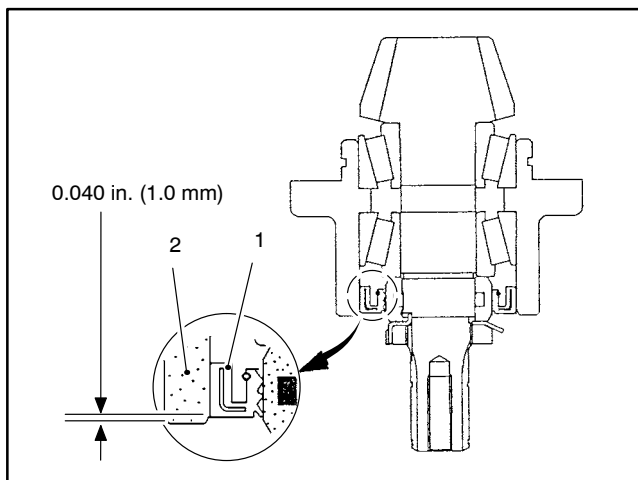

Figure 19
3. Coat a new oil seal with grease and install as shown (Fig. 19).